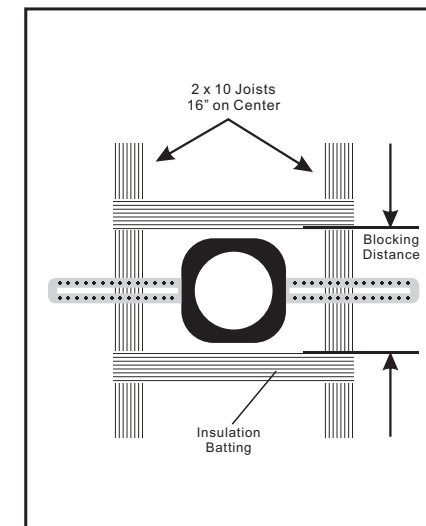

Figure 4
5. When using the PYLEAUDIO Pre-Construction Bracket (see figure 4), leave a coil of speaker wire on top of the bracket coiled around the speaker mounting hole. There are clips on the corner of the bracket to secure the speaker wire. Leave enough speaker wire to be able to pull the wire through the speaker after the drywall is installed. Strip off 3 inches or so of the speaker cable jacket to expose the positive and negative insulate wires. Strip 3/8-1/2 inch of insulation off of these conductors.